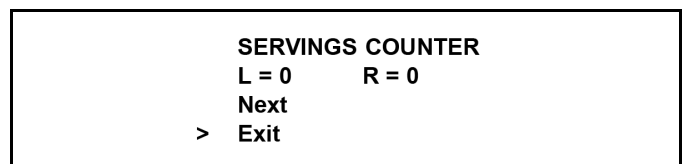

Figure-198
**Note:** The Servings Counter will automatically reset to zero when the machine is brush-cleaned. (See Figure-198.)